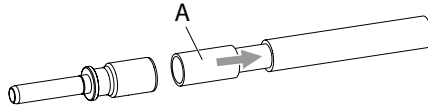

Fig. 4:
1. Push the reducing bushing (A) as shown in *Fig. 4* onto the bare cable braid and push the cable braid together with the reducing bushing into the connection area of the contact.